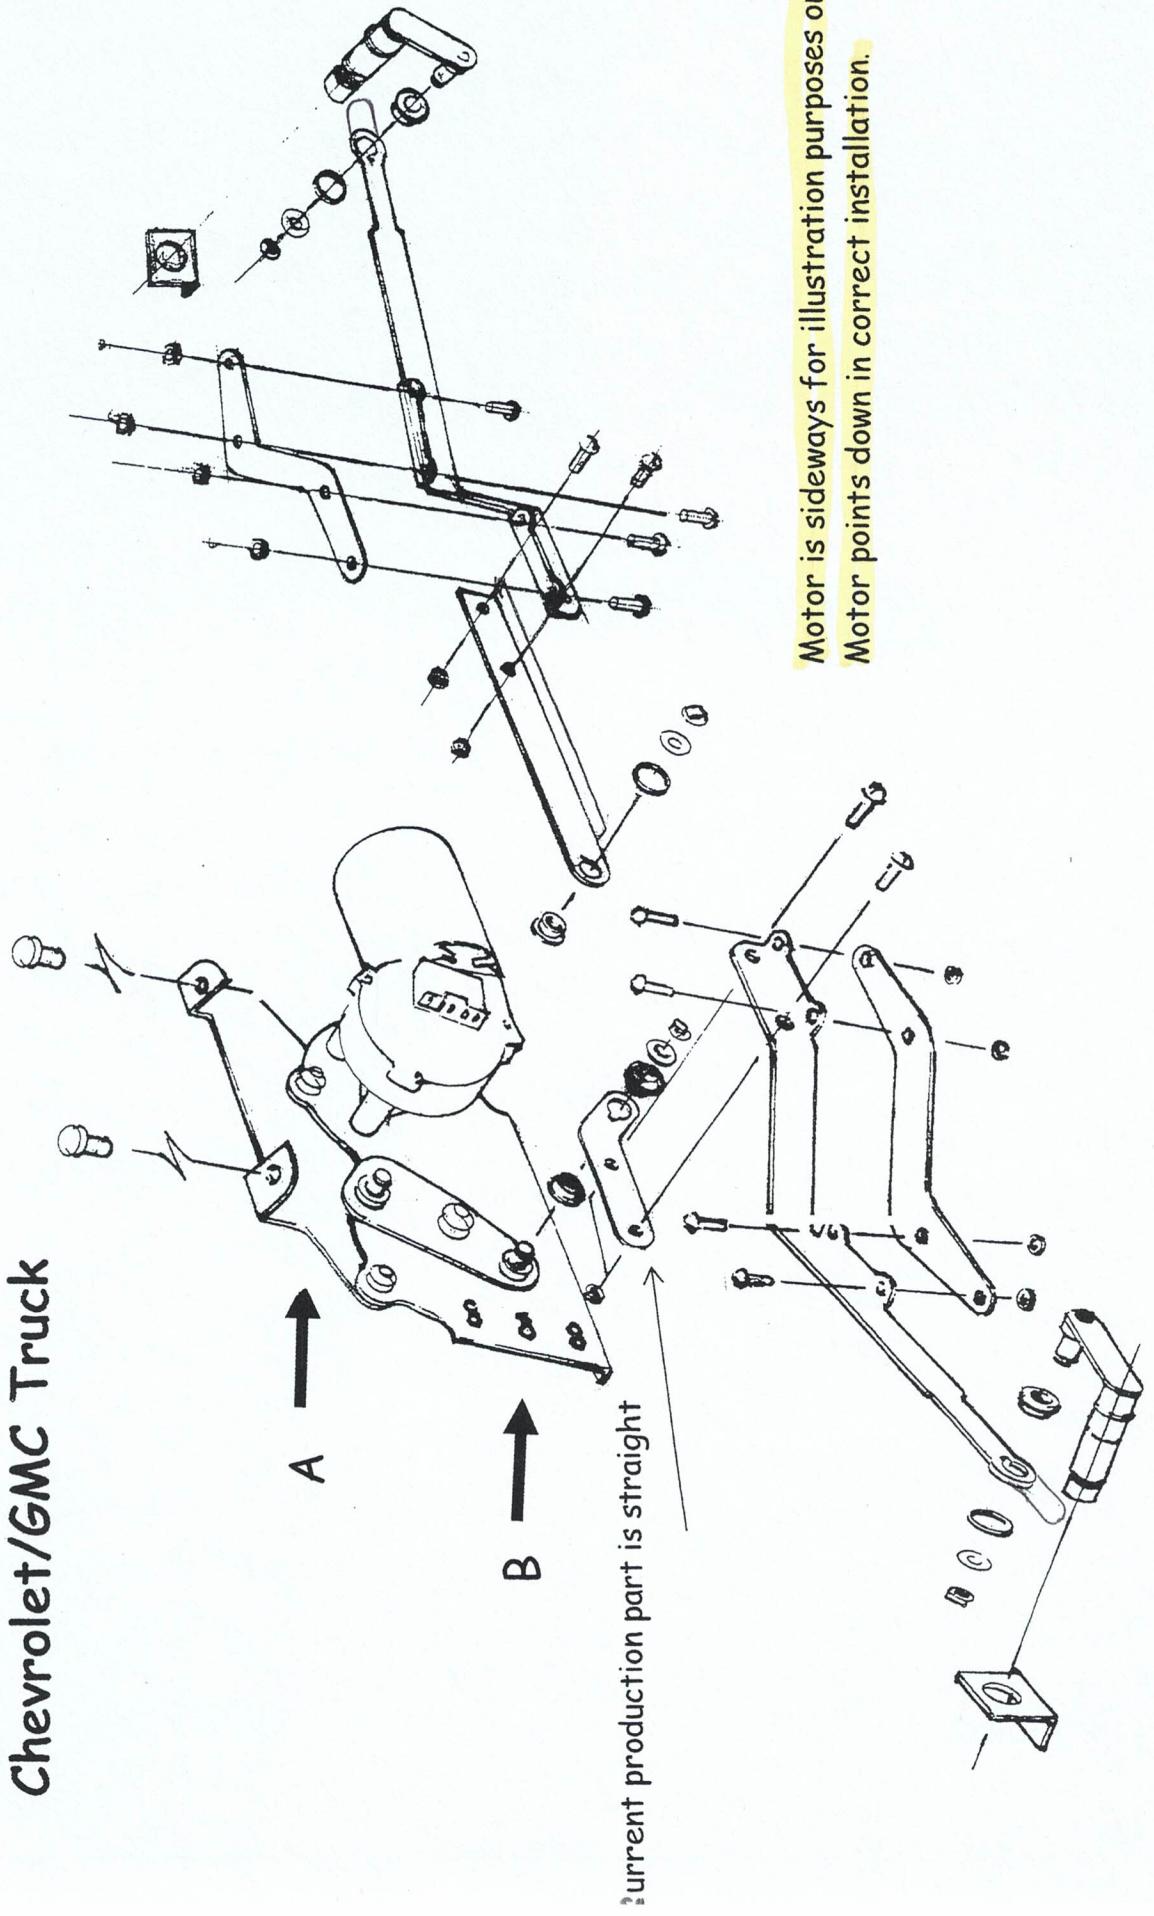

Figure 5
- Apply the plastic bushing and ring to the outboard hole of the links in the order shown in Figure 5. The bushings are designed to be a very tight fit.
- Fasten the links to the pivot shafts (grease the brass pins) adding the special thin washer and a J-clip. You can use the side of a ¼" open-end wrench to push and slide the spring clip onto the brass pivot pin. See Figure 5.
- Add the outside gasket, the chrome escutcheon, and the escutcheon nut. Tighten with the included escutcheon nut wrench. See Figure 5.